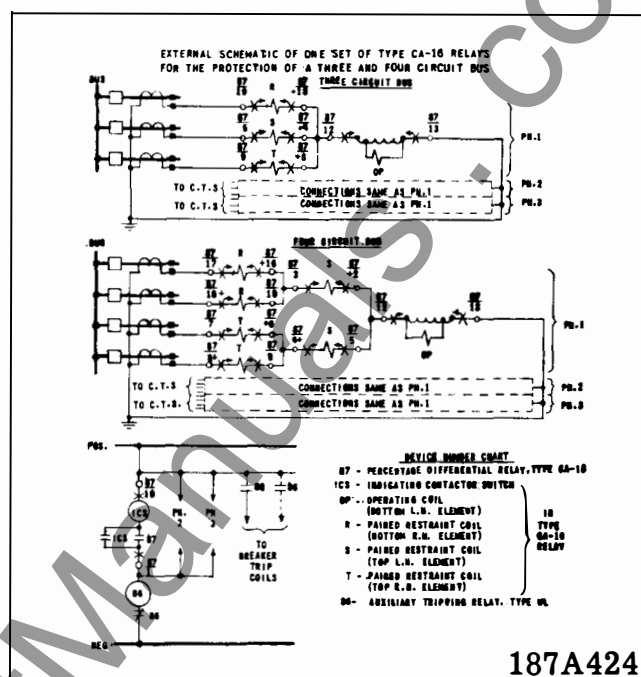
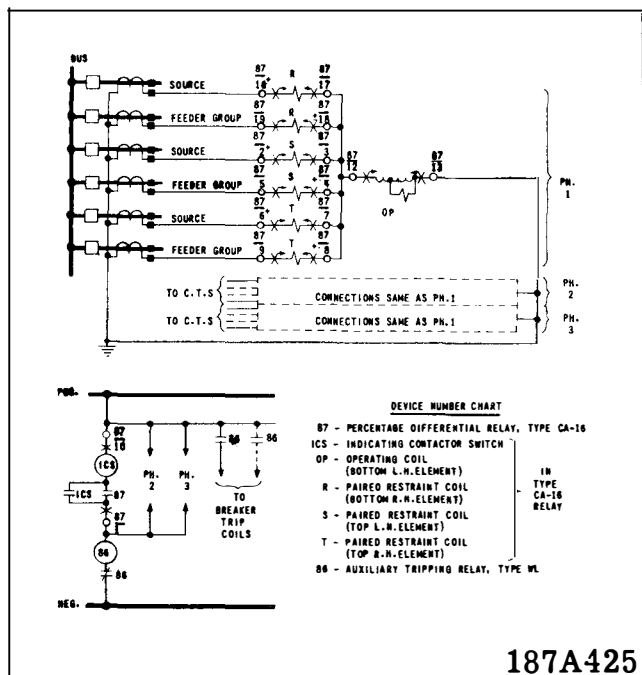

Fig. 8. External Schematic of the Type CA-16 Relays for Three and Four Circuit Bus Protection
Fig. 9. External Schematic of the Type CA-16 Relays for Protection of a Six Circuit Bus with Three Feeder Groups
* primary circuit as either a "source" or "feeder". As defined here, a feeder contributes only a small portion of the total fault-current contribution for a bus fault. Otherwise, the circuit is a source. Next lump a number of feeders into a "feeder group" by paralleling feeder CT's, taking the precaution that each feeder group has less than 14 amperes load current (restraint coil continuous rating). Also each feeder group should not contribute more than 10% of the total phase or ground-fault current for a bus fault if figure 9 is to be used.
Connect per Fig. 8 with three or four bus "circuit." The term "circuit" refers to a source or to a feeder group. For example, assume a bus consisting of 2 sources and 6 feeders. Further, assume that the feeders are lumped into 2 feeder groups. The bus now reduces to four circuits.
If the bus reduces to more than four circuits, parallel source-circuit CT's or source-and-feeder-circuit CT's until only four circuits remain. Then connect these four sets of CT's to the relays per Fig. 8. The exception to this rule occurs when the application consists of three feeder groups. Then, Fig. 9 applies.
With 3 feeder groups and more than 3 sources, parallel source CT's until the application reduces to 6 circuits; then, connect to the relays per Fig. 9.
* use the Fig. 9 connections; where there are more than three sources the source CT's should be paralleled to reduce the effective number of source connections to three. The "four-circuit bus" connections of Fig. 8 are not recommended to be used for bus protection with the CA-26 since it may have too much restraint when energizing the bus on fault. Otherwise the connection considerations are as described above for the CA-16.